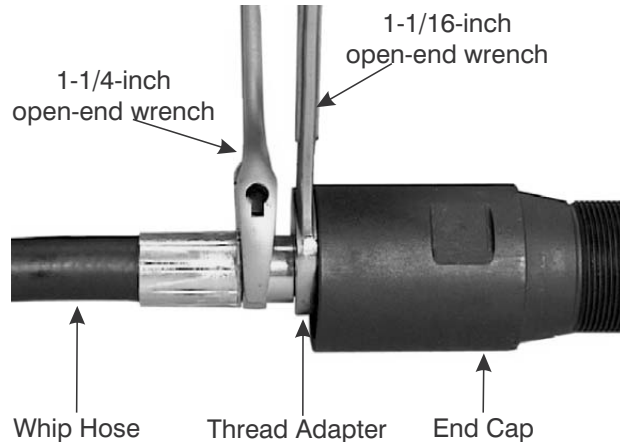

Figure 9-39. Loosen Hex Fitting and Remove Whip Hose
6. Continue holding the Valve Stem in position. Fit the 1-1/16-inch open-end wrench across the flats of the Thread adapter, and a 1-1/4-inch open-end wrench across flats of the Whip Hose Hex Fitting as shown in Figure 9-39.
7. Tighten the Whip Hose Hex Fitting securely onto the Thread Adapter (3) as shown in Figure 9-39.